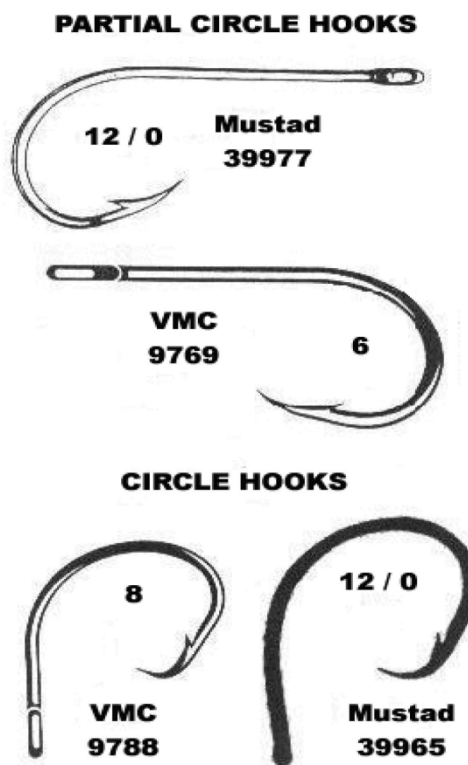

Figure 8. Common hook types.
*Hooks*: A piece of metal or other material that can be curved or bent at an angle to target specific types of fish (see FIGURE 8). There is no world or industry standard method of measuring hooks, but here in the United States, the measures go from the smallest size 32 and count down. As the number decreases, the size increases all the way down to a number 1 hook. At this point, the number changes to a designation of “aughts” or zeroes. A 1/0 hook is the next larger size to a number 1. A 2/0 is larger still, and this numbering scheme goes as high as 19/0.